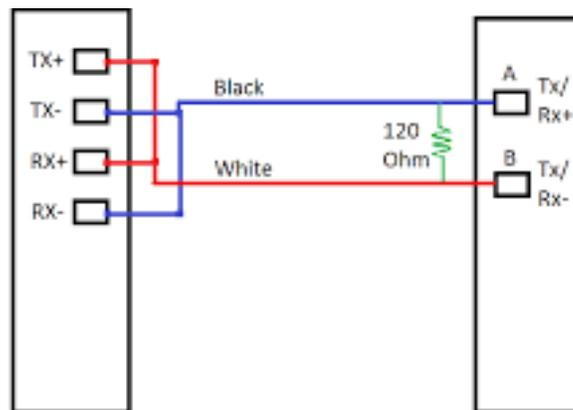

Figure 7 2-Wire RS485 wiring diagram
- User can refer figure 7, if 4- wire to 2-wire RS485 conversion is required.